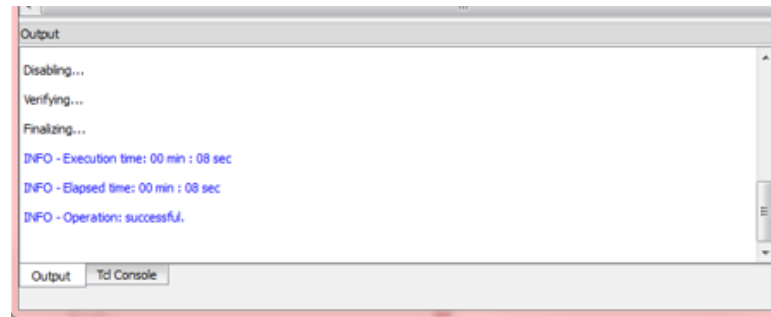

Figure B.5. Output Console
- After successful programming, the **Output** console displays the results as shown in Figure B.5